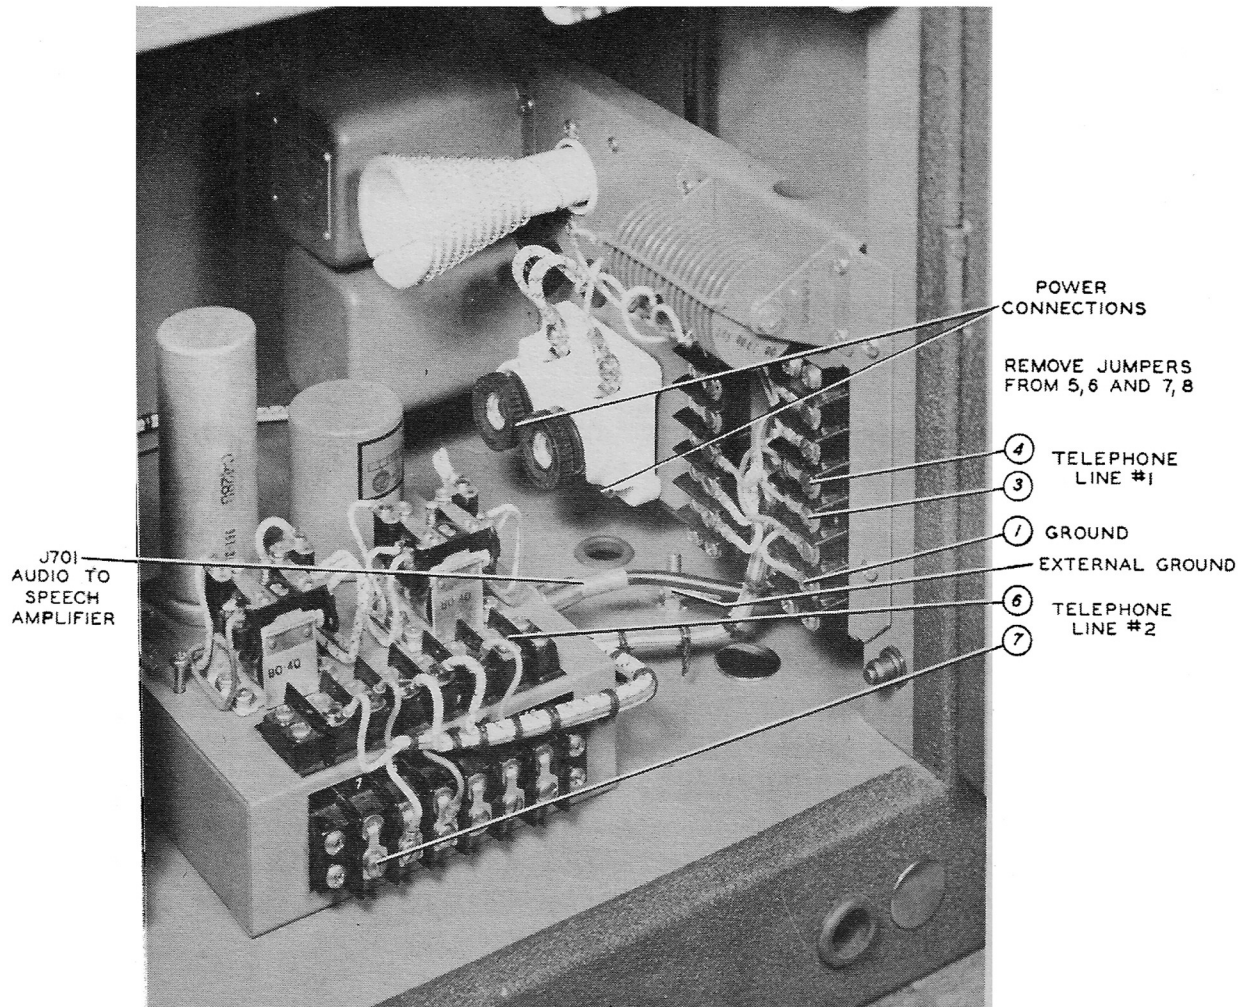

FIGURE 2-4 EXTERNAL CONNECTIONS
(4) REMOTE CONTROL UNIT CONNECTIONS - A 7/8" diameter hole is provided at the cabinet base for entrance of remote control lines if used. Refer to figure 2-4.